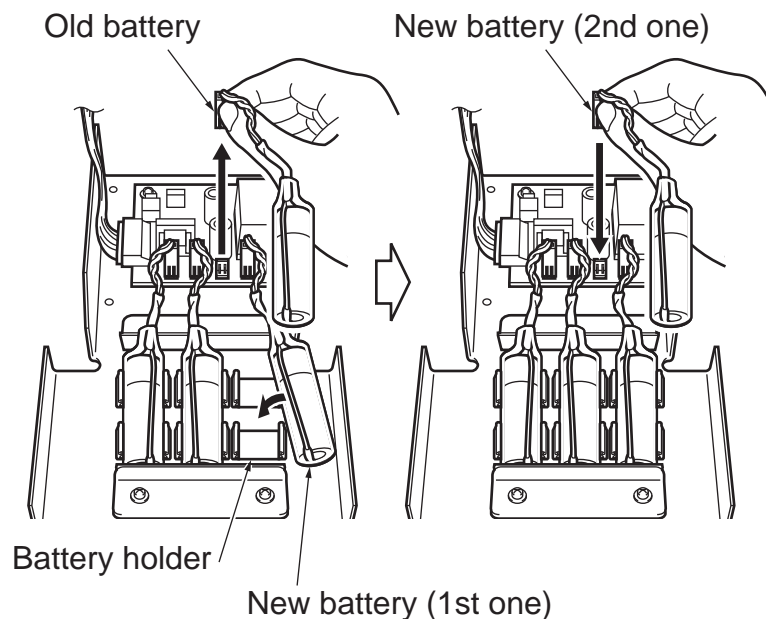

Figure 5-5. Connecting Second New Battery
7. Disconnect the old backup battery that is next to the new battery connected in Step 6, and then connect a new battery (2nd one). See Figure 5-5.